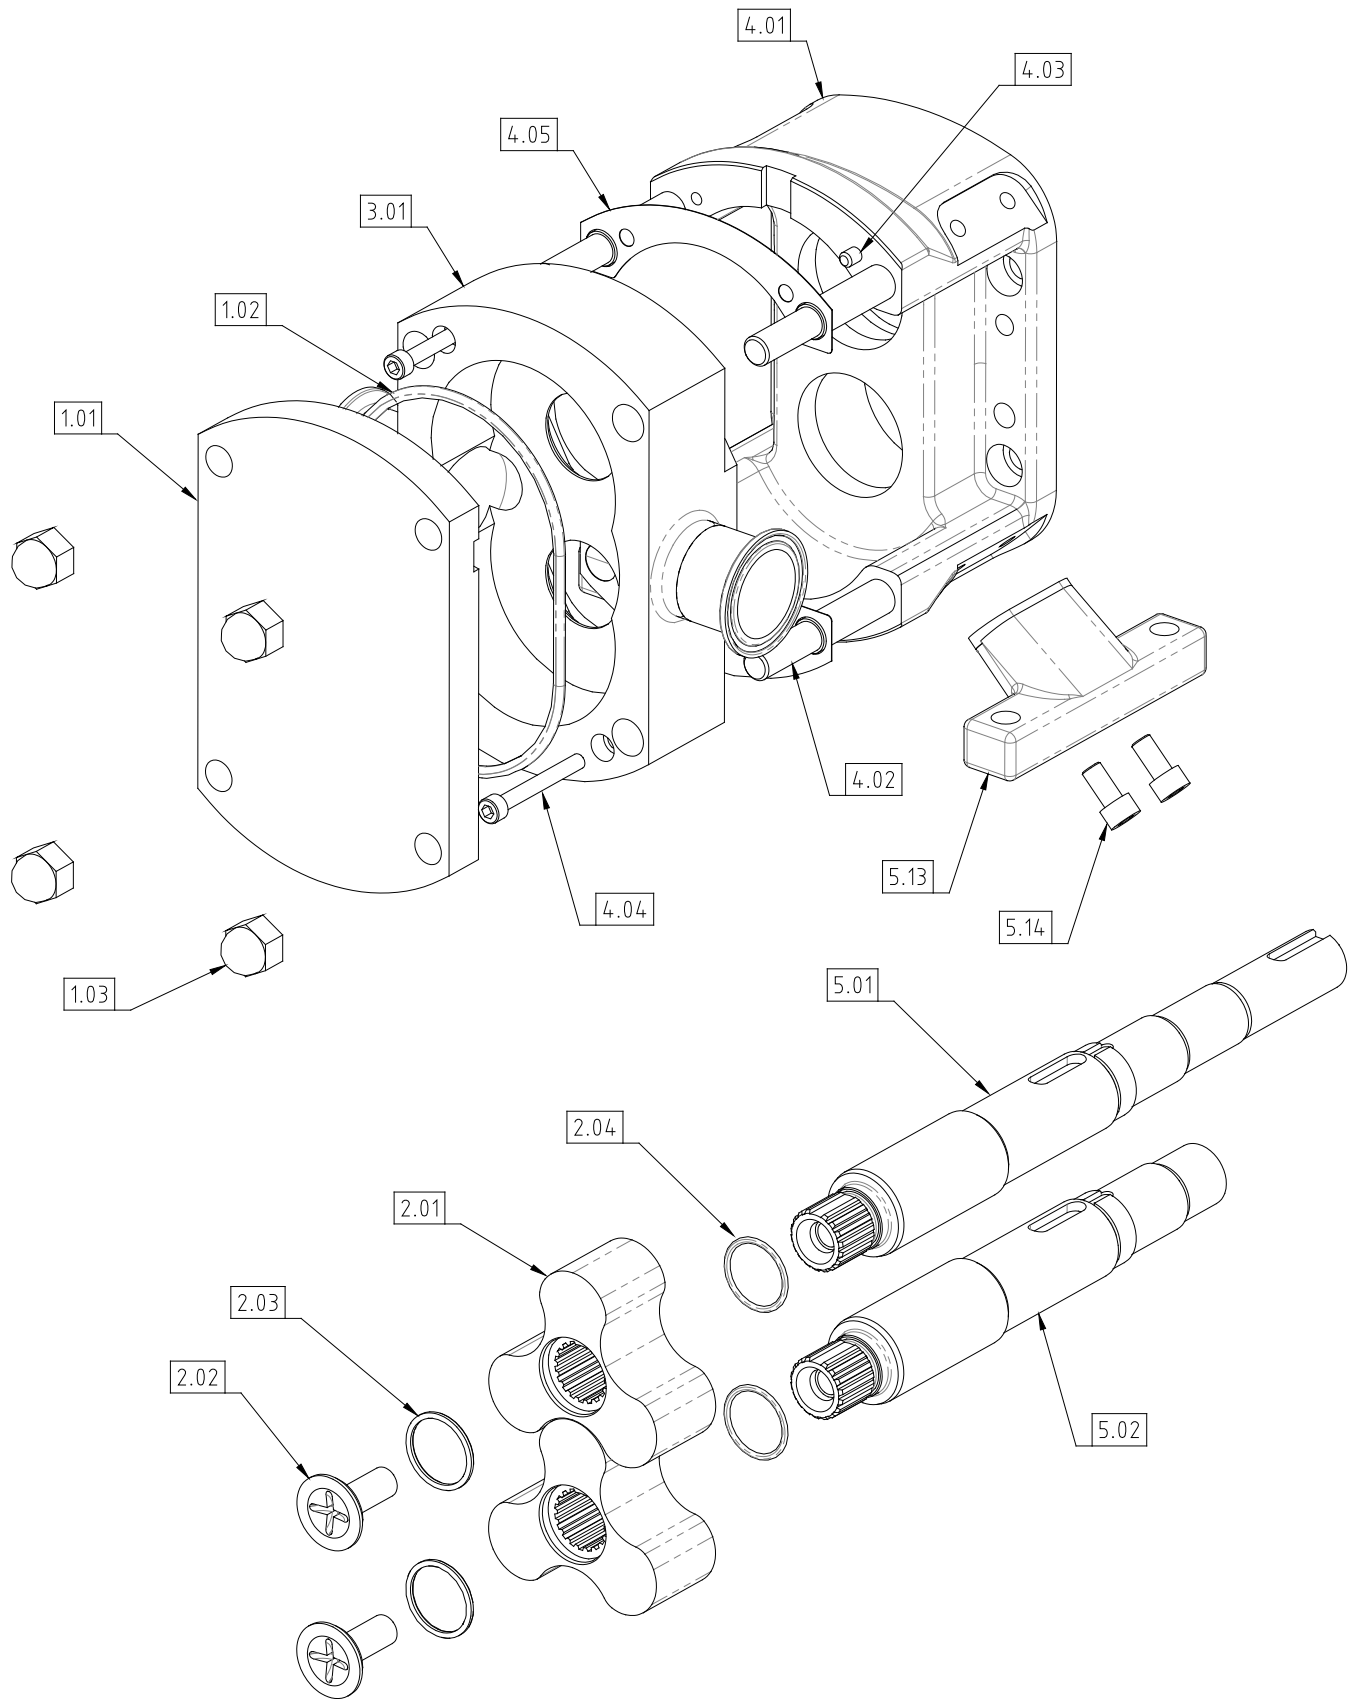

Fig 16 CP20 / CP30 Exploded View of Rotorcase and Rotor Assembly
- For CP20 Pump – refer to Fig 16.